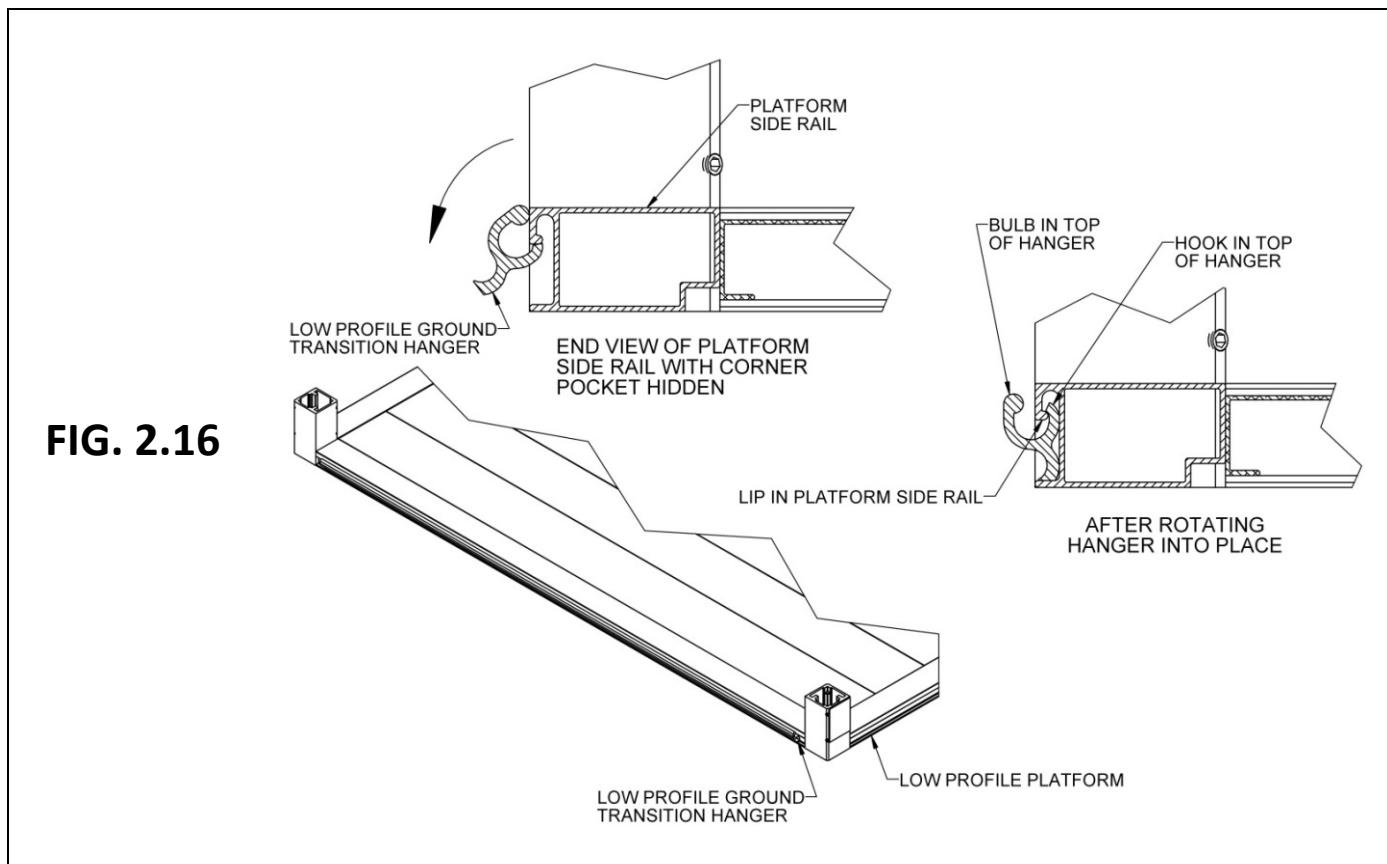

FIG. 2.16
2.6.7.4. Hold the low profile ground transition hanger as shown (FIG. 2.16), then rotate the hanger and continue pushing upward in such a manner that the hook at the top of the hanger goes behind and catches on the lip in the platform side rail and the hanger sits on the lower ledge of the side rail (FIG. 2.16).
2.6.7.5. Set the low profile platform on its side in such a manner that the low profile ground transition hanger extends up from the ground and the low profile ground transition or bridge transition can be held at approximately 90 degrees to the platform (FIG. 2.16).